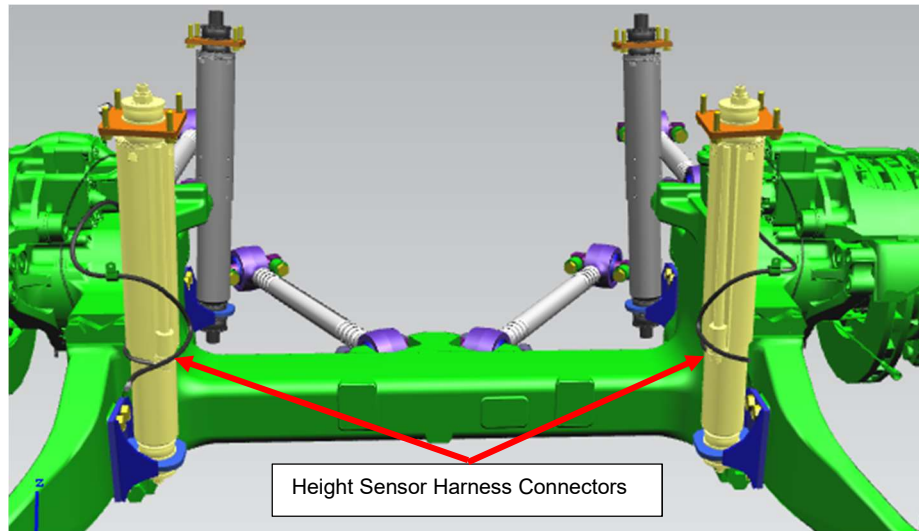

Figure 13: Center Axle Shock absorber installation (view from rear).
- c. Clock the dust covers on the shock absorbers so that the molded plug on the sensor harness faces the rear of the vehicle as seen in Figure 13.